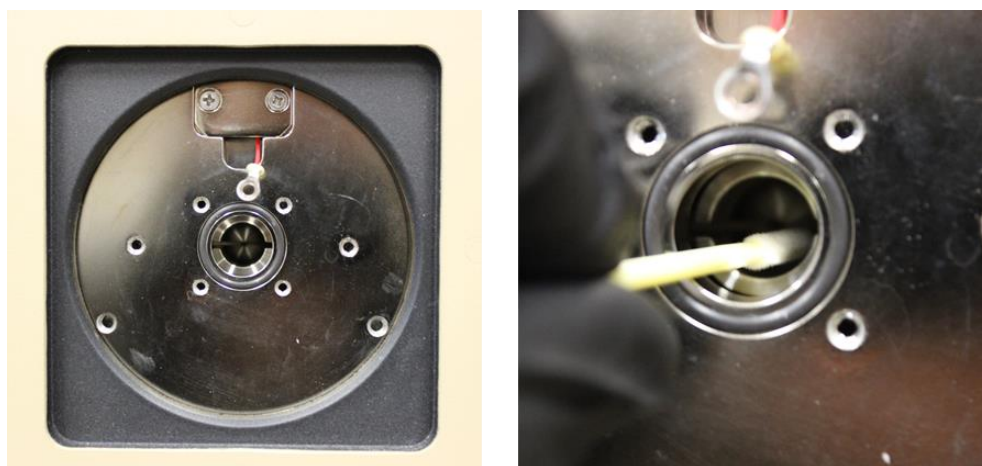

Figure 1.20 – Removal of capillary housing and skimmer cleaning
10. Use methanol and a swab to gently clean the inside of the AI-MS, focusing on the tube lens (U-shaped pieces) and the skimmer (cone-shaped piece). Extra care should be taken to not contact the orifice entrance of the skimmer with the swab as this may cause damage to the skimmer and leave material that would impact ion transfer (Figure 1.20).